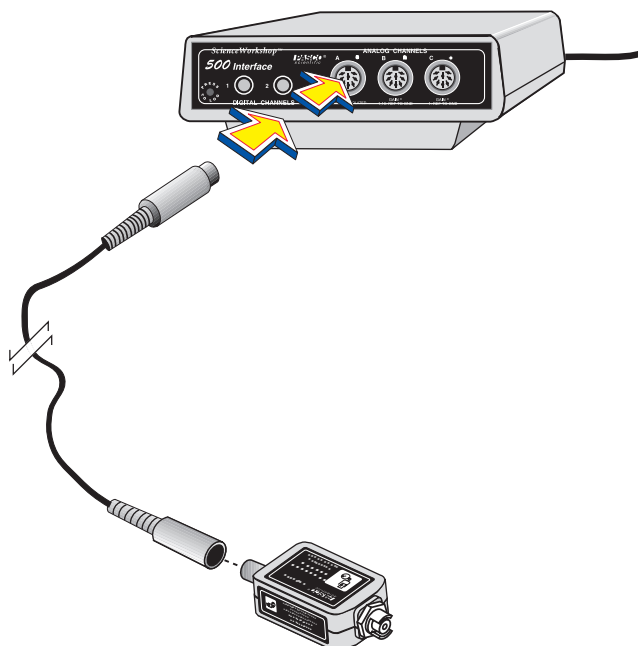

Figure 1
1. Connect the Pressure Sensor unit to analog channel A, B, or C of the *Science Workshop* computer interface box using the cable with the DIN connectors (Figure 1). Alternatively, the unit can be plugged directly into the analog channel jack.